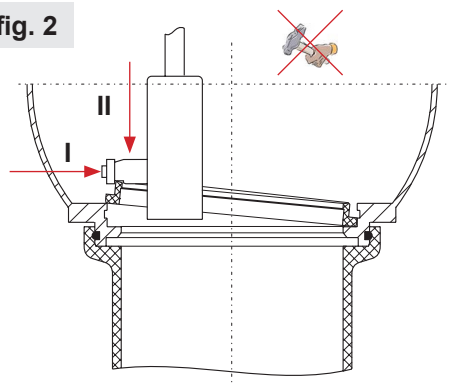

fig. 3
- 3) Fix the seal by means of the locating groove of the assembly mandril (fig. 3 / I).
- 4) Press in the elastomer at one spot between housing flange and PTFE ring (fig. 3 / II).